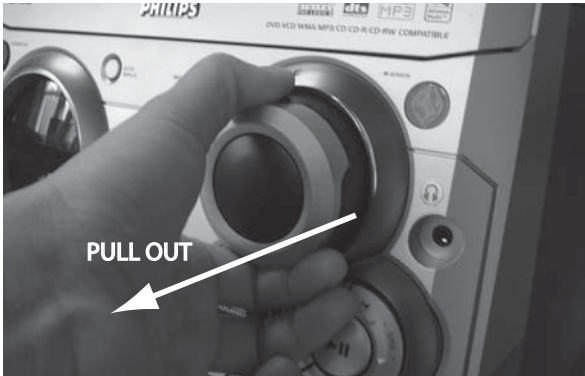

Figure 7
- 1) Remove the Volume knobs as stated in Dismantling the Cover Front Display in Figure 7.